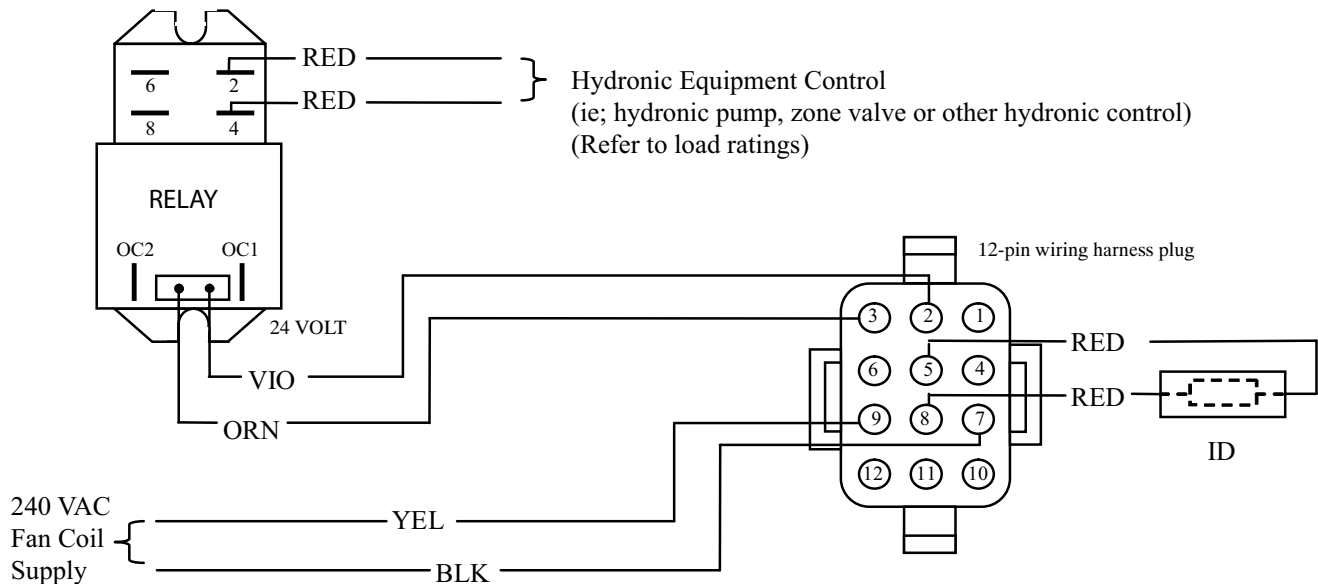

Fig. 2 – Interface Relay Kit Wiring Schematic
9. Use wire nuts to connect stripped red leads to the incoming Hydronic equipment control power wires (Fig. 2).